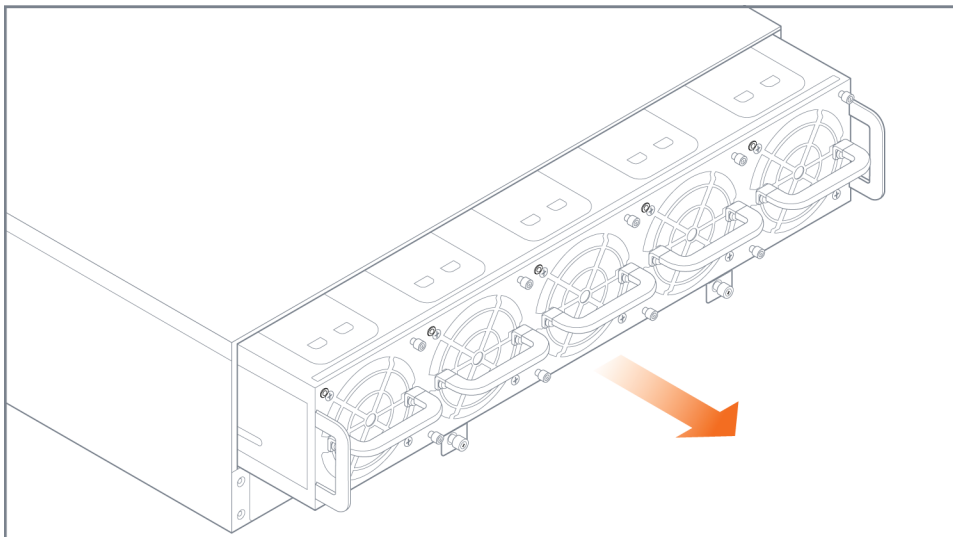

Figure 4-11: Fan Tray Removal
3. Pull the failed fan tray out of the slot and set it aside. Refer to Figure 4-11 on page 81.